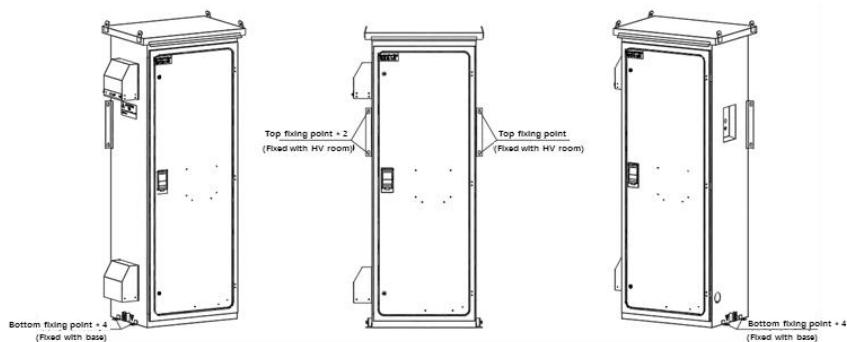

Fig. 5-5 Installation location plan of the standardized communication power cabinet r
- (1) According to Figure 5-5, after the standardized communication power cabinet is placed in place, the fixing point of the communication power cabinet is fixed with stainless steel bolts according to the fixed connection position of the all-in-one machine or box;
- (2) After fixing the position of the communication power cabinet, connect the grounding point of the communication power cabinet with the all-in-one machine or box with flat steel or copper wire.